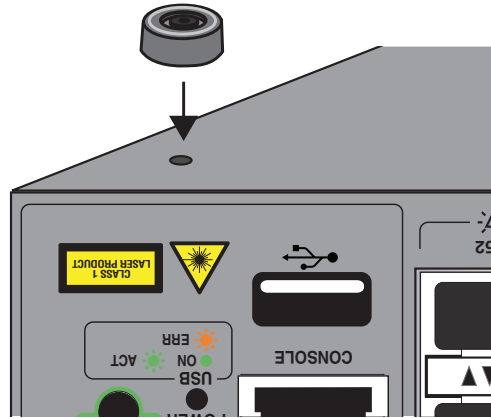

Figure 31. Placing the Bumper Foot on a Base Corner Hole
- Place the bumper foot with rivet housing onto one of the holes in the base of the switch. Refer to Figure 31.